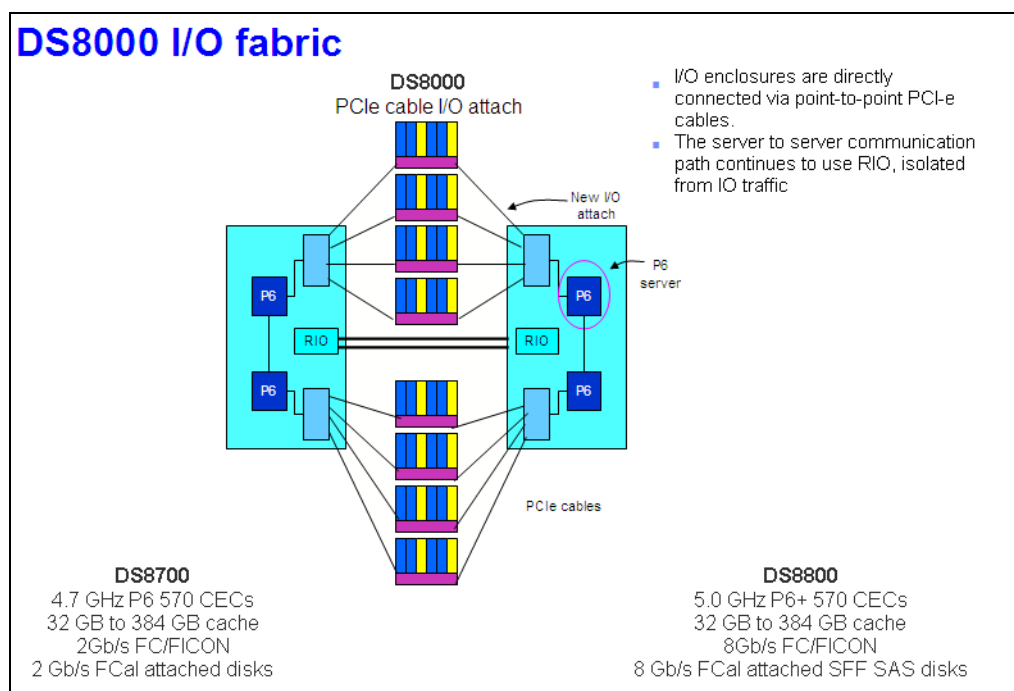

Figure 4-1 DS8000 design of RIO-G loop and I/O enclosures
For the DS8700 and DS8800, the I/O Enclosures are wired point-to-point with each central electrical complex using a PCI Express architecture. This means that only the CEC-to-CEC (XC) communications are now carried on the RIO-G, and the RIO loop configuration is greatly simplified. Figure 4-1 shows the new fabric design of the DS8000.
The DS8800 I/O enclosure is a design introduced in the DS8700. The older DS8000 I/O enclosure consisted of multiple parts that required removal of the bay and disassembly for service. In the DS8700 and DS8800, the switch card can be replaced without removing the I/O adapters, reducing time and effort in servicing the I/O enclosure. As shown in Figure 4-1 on page 78, each central electrical complex is connected to all four I/O enclosures (base frame) or all eight I/O enclosures (expansion frame installed) through PCI Express cables. This makes each I/O enclosure an extension of each server.